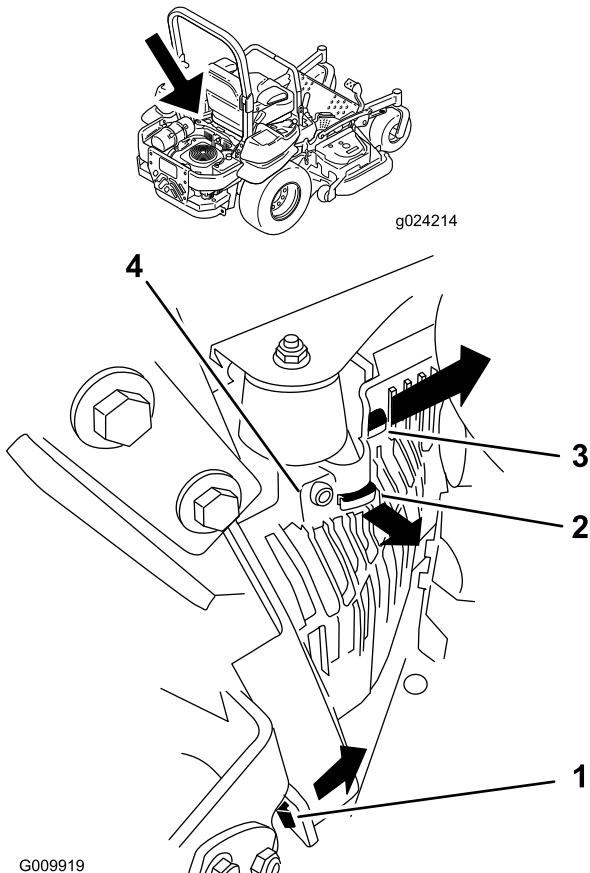

Figure 51
3. Remove the lefthand hydraulic unit shroud in the order listed with Figure 51. This gives you access to the front spark plug.
5. Install the lefthand hydraulic unit shroud (Figure 51).